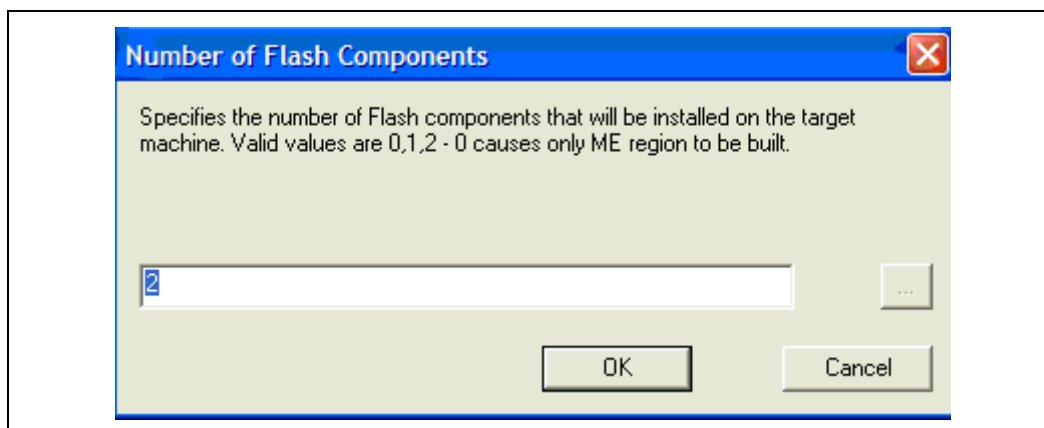

Figure 24: Flash Components Dialog
3. Double-click **Number of Flash Components** in the right pane (see Figure 24); the Flash Components dialog appears.